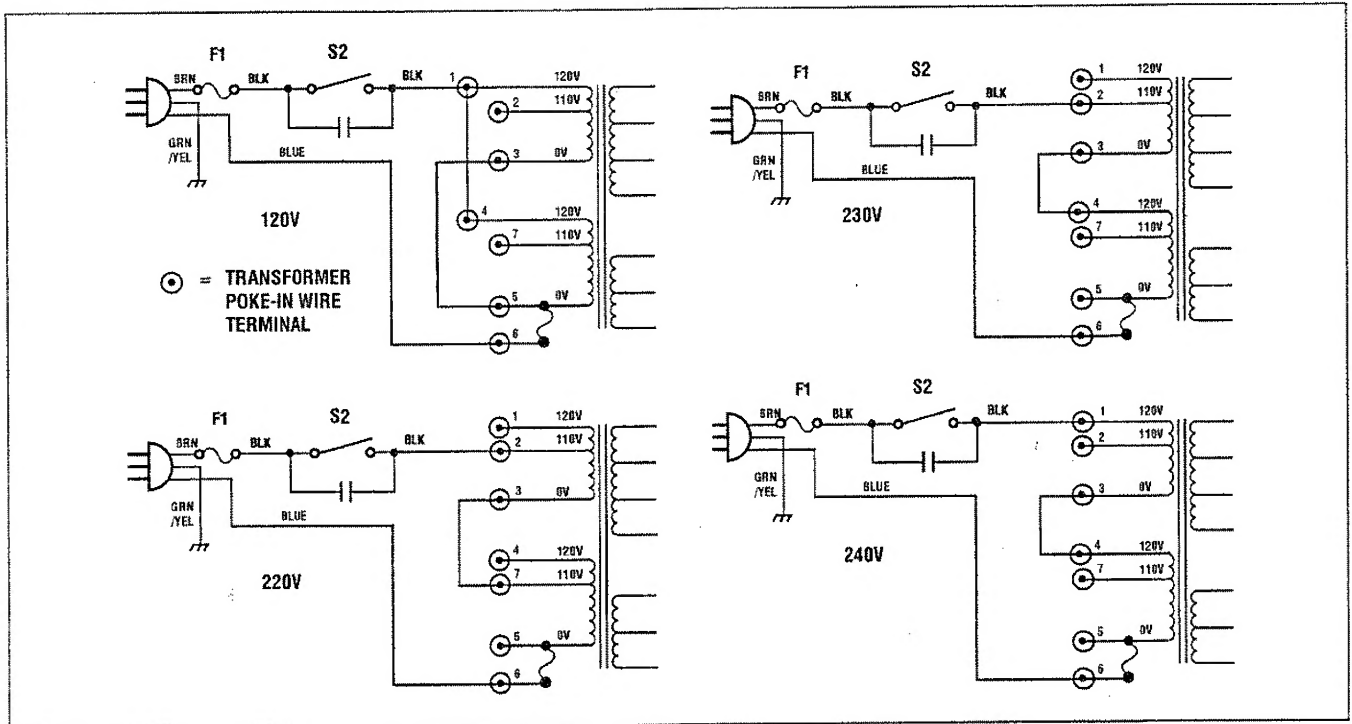

Figure 10. Line Voltage Conversion, International Units
version from one line voltage to another is done by a simple wiring change as shown in Fig. 10.
3. Rewire the power transformer to the desired line voltage as shown in Fig. 10.